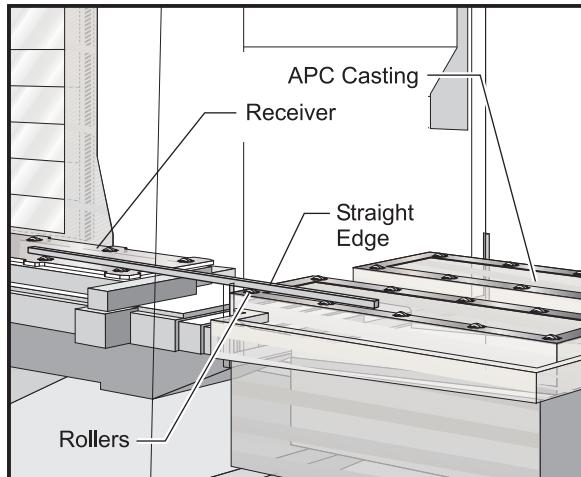

Figure 2.7 APC roller alignment setup.
12. Place the straightedge on top of the rollers of both the VMC receiver (unclamped) and the APC, to check the APC height (see Figure 2.7). Make sure that the straightedge is on top of at least two rollers on both the unclamped receiver and the APC in order to get an accurate reading. Adjust the leveling screws in the APC legs until the straightedge lays completely flat on all rollers.